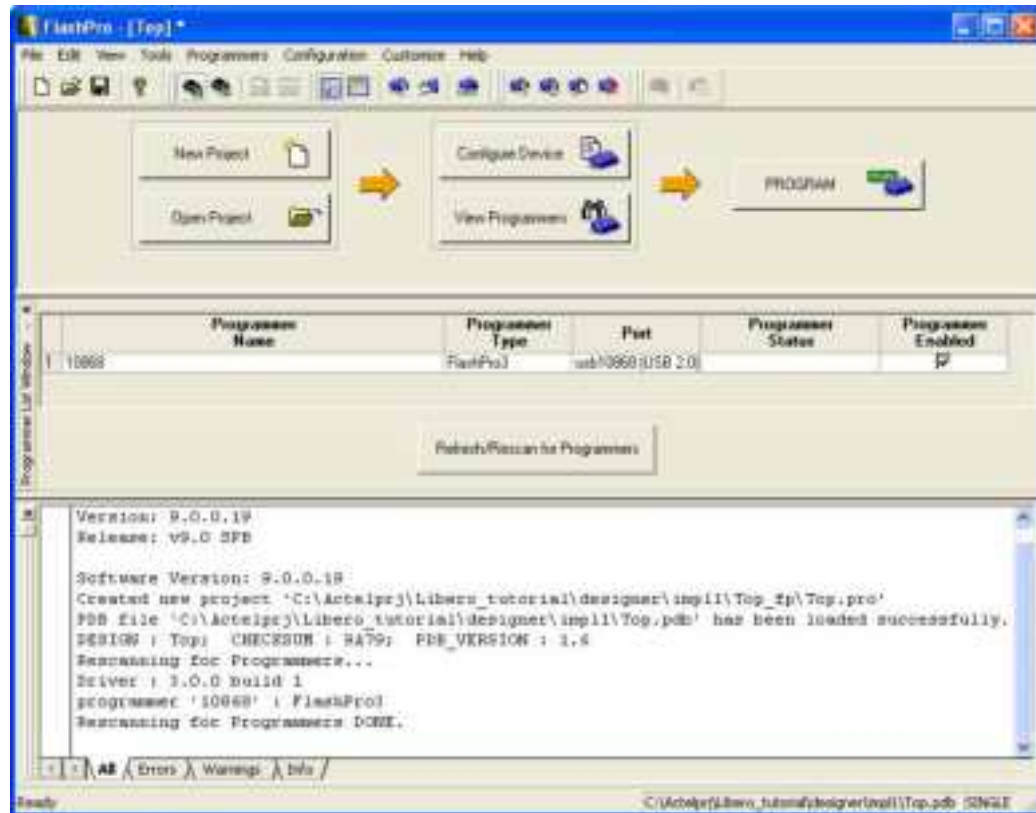

Figure 1-48 • FlashPro Programmer
1. Make sure that you have made all the connections on the board. In the Project Flow window in the Project Manager click **Programming-FlashPro**. When you open FlashPro, the software automatically connects to the Low Cost Programming Stick (LCPS) (Figure 1-48).